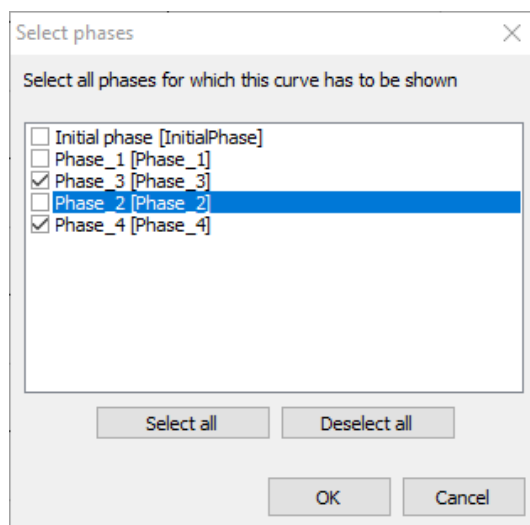

Figure 39: The Select phases window
8. In the **Select phases** window make sure only Phase 3 and 4 are selected as shown in Figure 39 (on page 49):